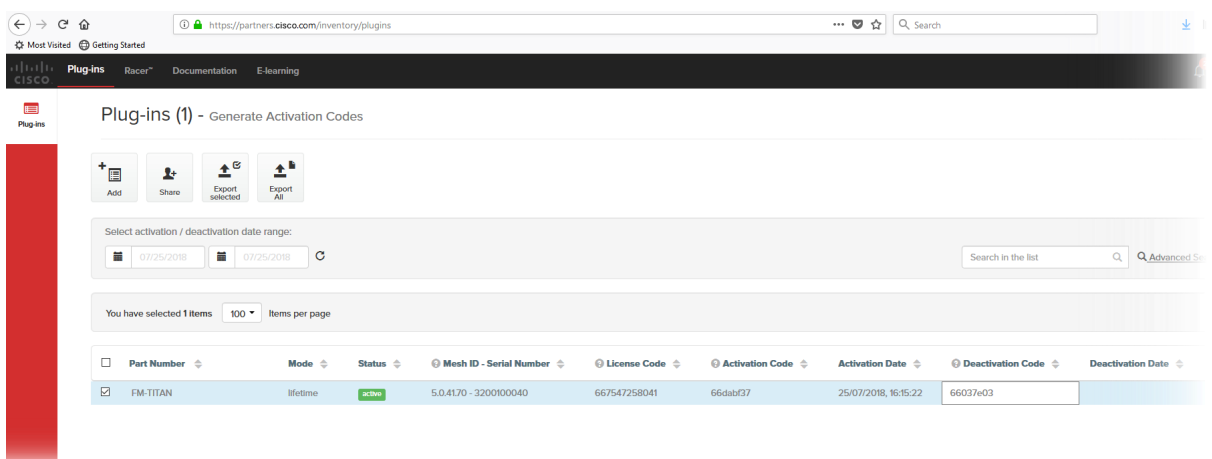

Figure 52. Partner Portal Plug-ins page (deactivation code entry)
8. Enter the Deactivation code for the plug-in in the Deactivation Code field (Figure 52 (page 108)).